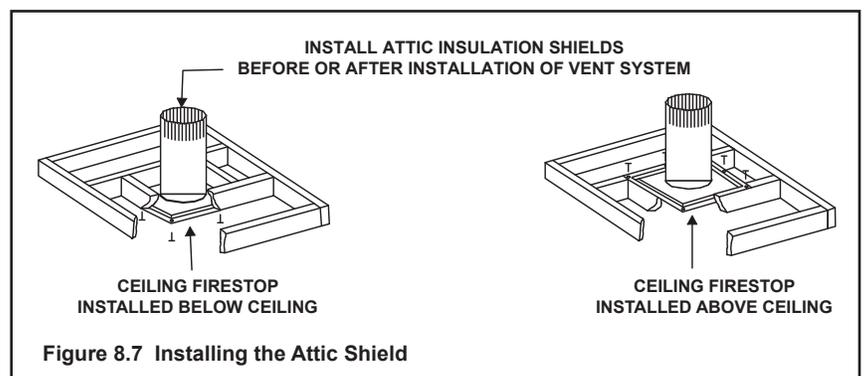

Figure 8.7 Installing the Attic Shield
- The ceiling firestop may be installed above or below the ceiling joists when installed with a attic insulation shield. It must be under joists between floors that are not insulated. Refer to Figure 8.7.